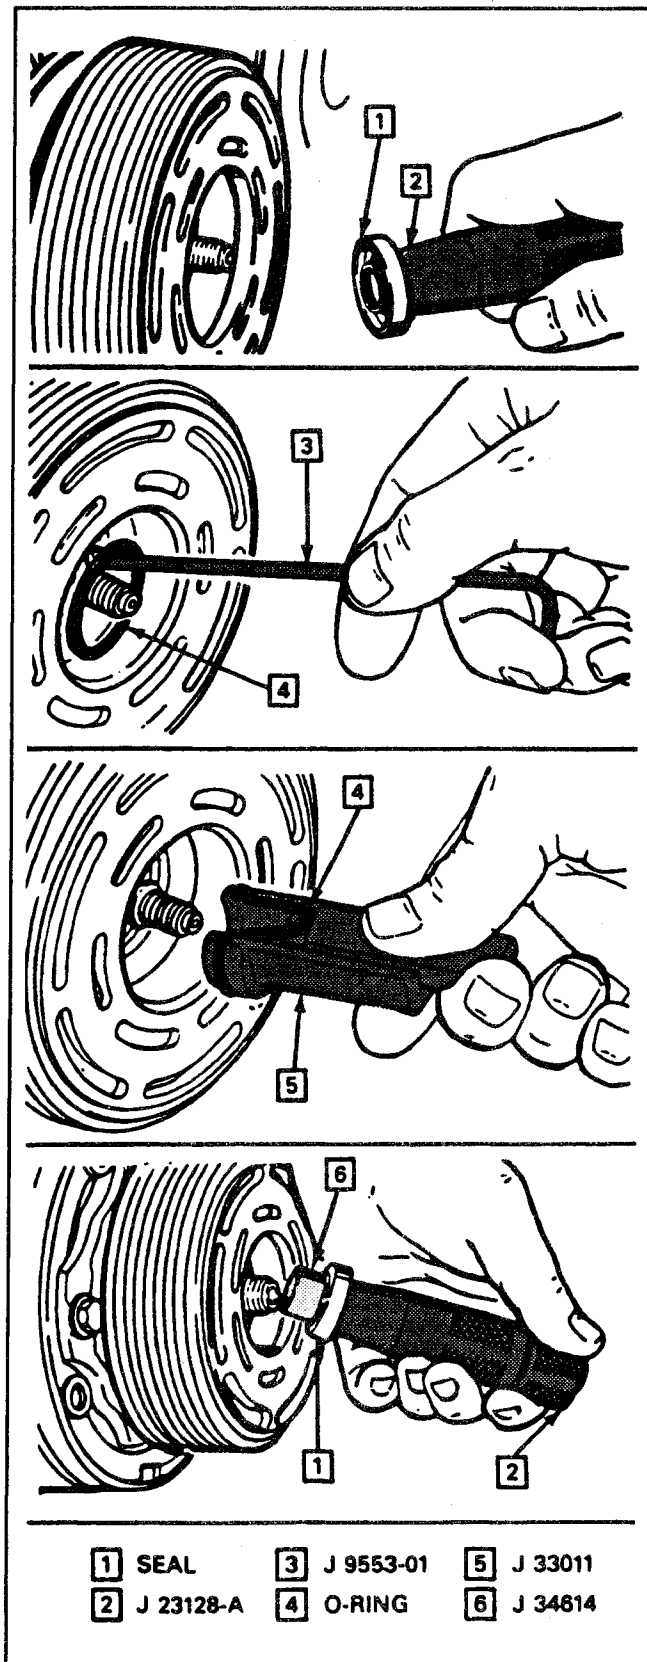

Fig. 20 Removing and Installing Shaft Seal and O-Ring
7. Remove and discard the seal seat O-ring from the compressor neck using O-ring remover J 9553-01, Figure 20.